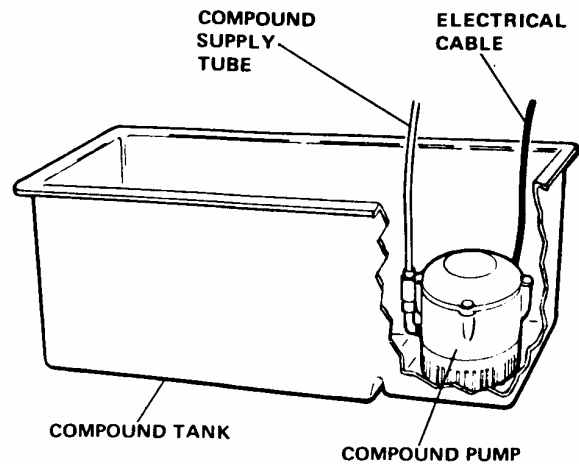

Figure 2-10. Compound Pump Installed In Tank
6. Install compound tank in unit and place compound pump in recess in bottom of tank. (See fig. 2-10.)